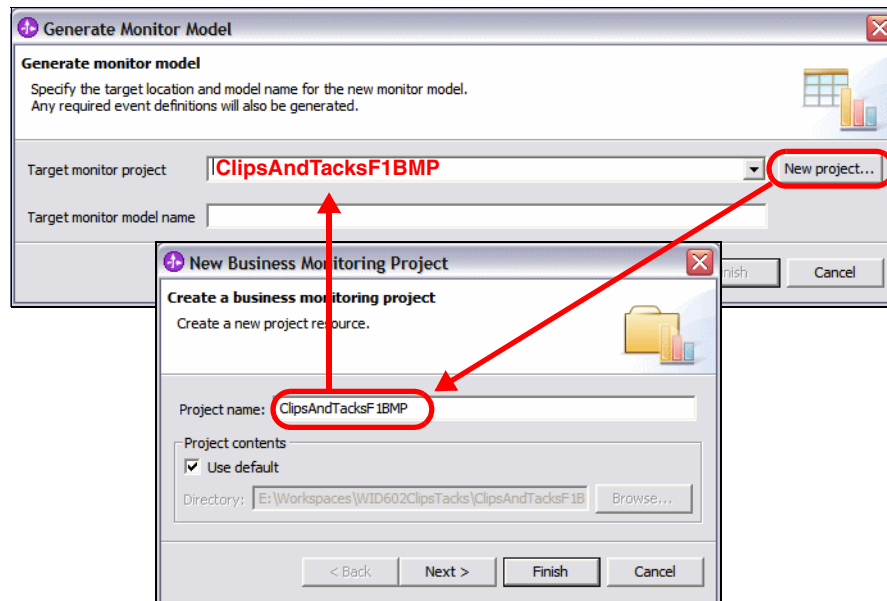

Figure 12-16 Generate the monitor model: Business monitoring project
- ▶ Click *New project* for the business measures (we are not using the project used for importing). Type *ClipsAndTacksF1BMP* as the project name and click *Finish* (Figure 12-16).